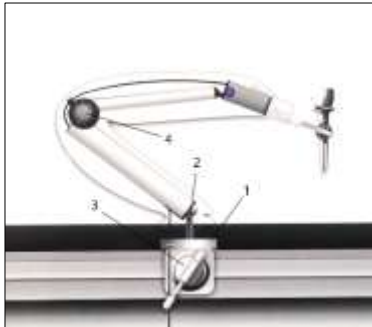

Figure 5
(N) Attach DIN-clamp to the DIN-rail of the operating table (see 1 in Figure 5), fixate arm into DIN-clamp (see 2 in Figure 5) and lock it by rotating (clockwise) the t-screw (see 3 in Figure 5)
(N) Rotate the adjustment knob (see 4 in Figure 5) counter clockwise to release three joints of the holding arm, swivel it to the desired position and lock it by rotating the adjustment knob clockwise.